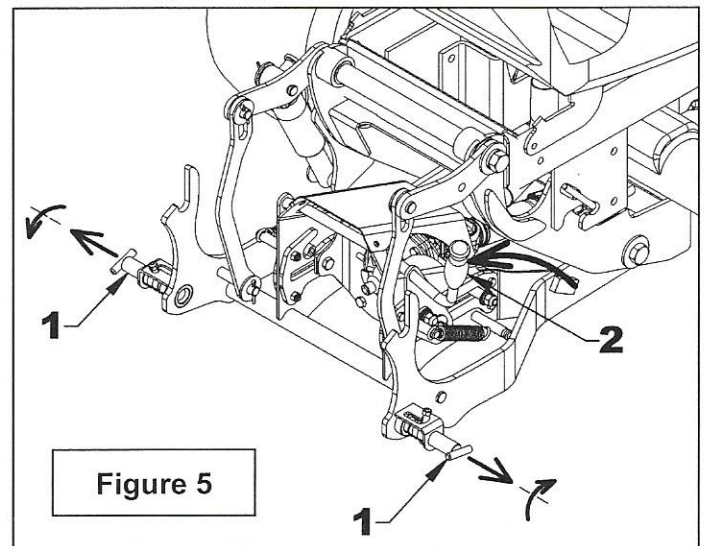

Figure 5
1. **Figure 5:** Pull and turn each subframe "T" pin (item 1) to engage them in the slots.
2. **Figure 5:** Move the drive system engagement lever (item 2) forward as shown on figure.